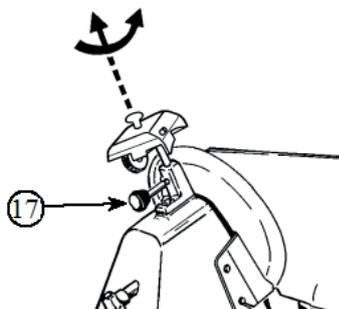
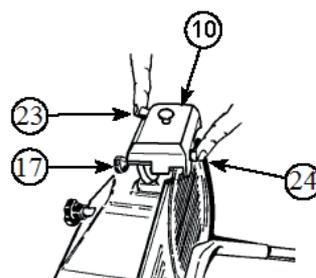
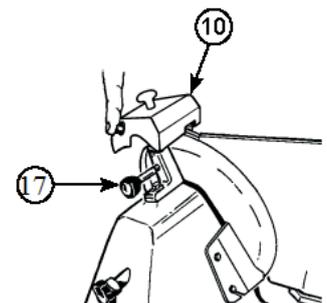

Fig. 1
Fig. 2
Fig. 3
- Please make sure that the movable bulkhead is closed (graduated knob (6) in position “0”).
- Loosen the locking knob (23) of the sharpener group (10).
- Raise the sharpener group (10), turning it by 180° so that both wheels are in working position (see Fig. 1)
- Lower the sharpener group (10) until it locks.
- Secure the group by turning the locking knob (23) (see Fig. 2)
- Press button (26) and let the blade turn for about 1 minute. When the blade is still, check to see if any burr has formed on the edge.
- After having verified the presence of burr, switch (5) on and gently press button (27) for about 3 seconds to remove the burr produced during sharpening. Put the graduated knob (6) back to “0” position.
- After sharpening, move the sharpener group (10) back to its original position (see Fig. 3)